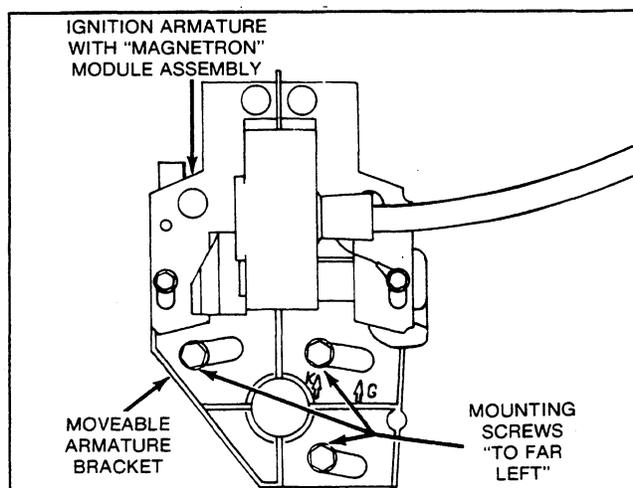

Fig. 29B — Kerosene Operation
2. Kerosene — Position armature bracket to the right, as far as it will go and tighten screws, Fig. 29B.